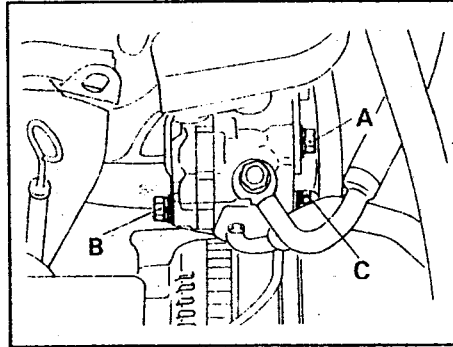
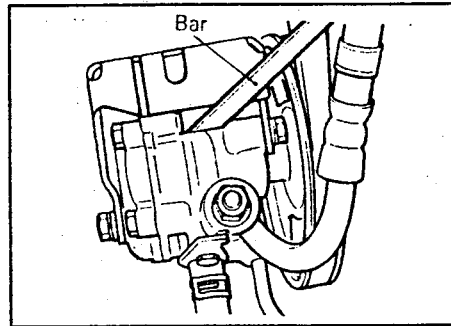

Fig. 12.4. — Bolts A, B and C secure the steering pump and must be slackened to adjust the drive belt tension on a 2.0 litre (4G63) engine.
Fig. 12.5. — Insert a bar or tyre lever as shown to move the steering pump.
- In the case of the 2.0 litre engine refer to Fig. 12.4 and slacken the bolts "A", "B" and "C" and then move the steering pump as described
below and shown in Fig. 12.5.
- Referring to Fig. 12.5, place a bar or a tyre lever against the steering pump housing and apply pressure to the lever until the deflection given in Section 12.0 has been obtained. Retighten the bolts in question and re-check the tension.
Refer to Fig. 12.4 when slackening the pump mounting bolts. To tension the belt, insert the bar or lever in the manner shown in Fig. 12.5. Again different values apply and Section 12.0 must be consulted.